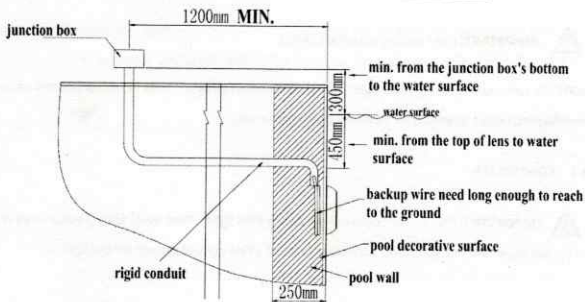

Figure 1
**NOTE:** The electrician must complete preparatory steps for local electrical system before any parts of this underwater light is installed. (See Figure 1)